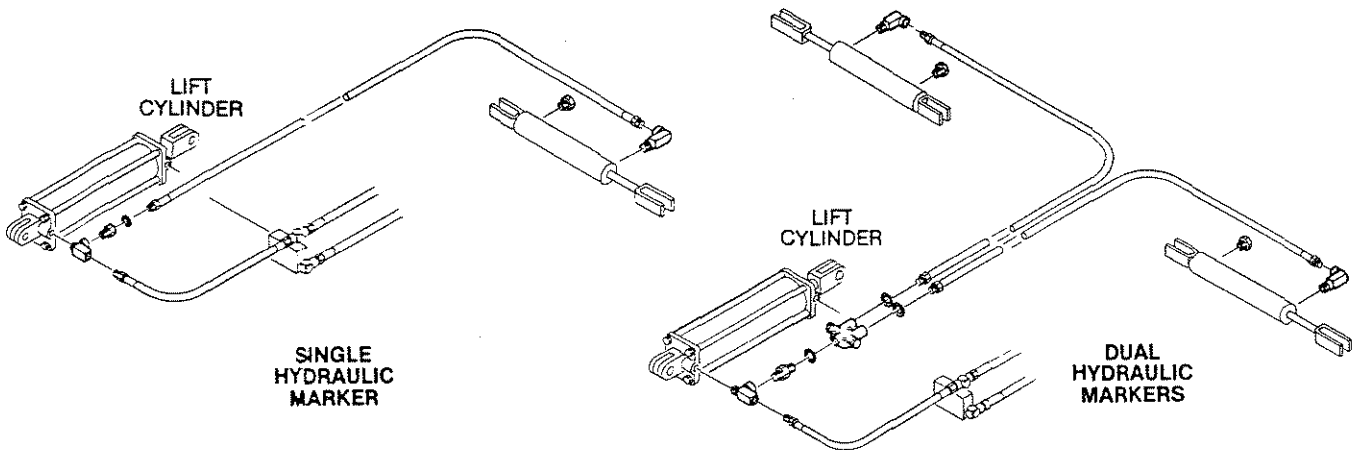

Figure 3
4. Attach hydraulic cylinders with ports facing to rear (fig. 3). Install hoses, sequencing valve, o-rings and fittings as shown in fig. 3. NOTE: BE SURE TO BLEED AIR FROM HYDRAULIC SYSTEM BEFORE OPERATING. Route all hoses to prevent kinking or pinching during operation.